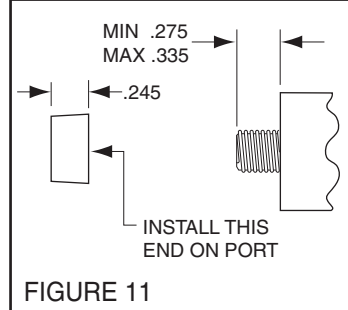
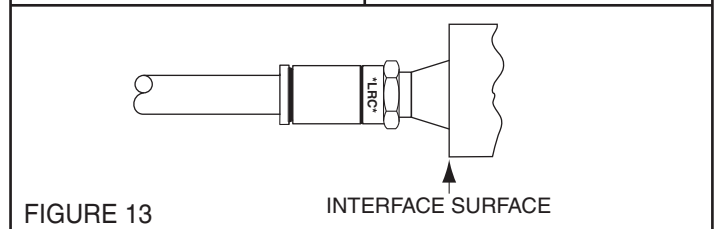

FIGURE 11
FIGURE 13
Push the larger diameter end, (see Fig. 11 or 12), over the F interface until seated against the interface surface, (see Figure. 13).
- Thread SNS connector onto the port and wrench tighten 2 to 3 ft. lbs. The end of the F connector nut should push against the end of the thread protector to ensure proper sealing (see Figure 13).